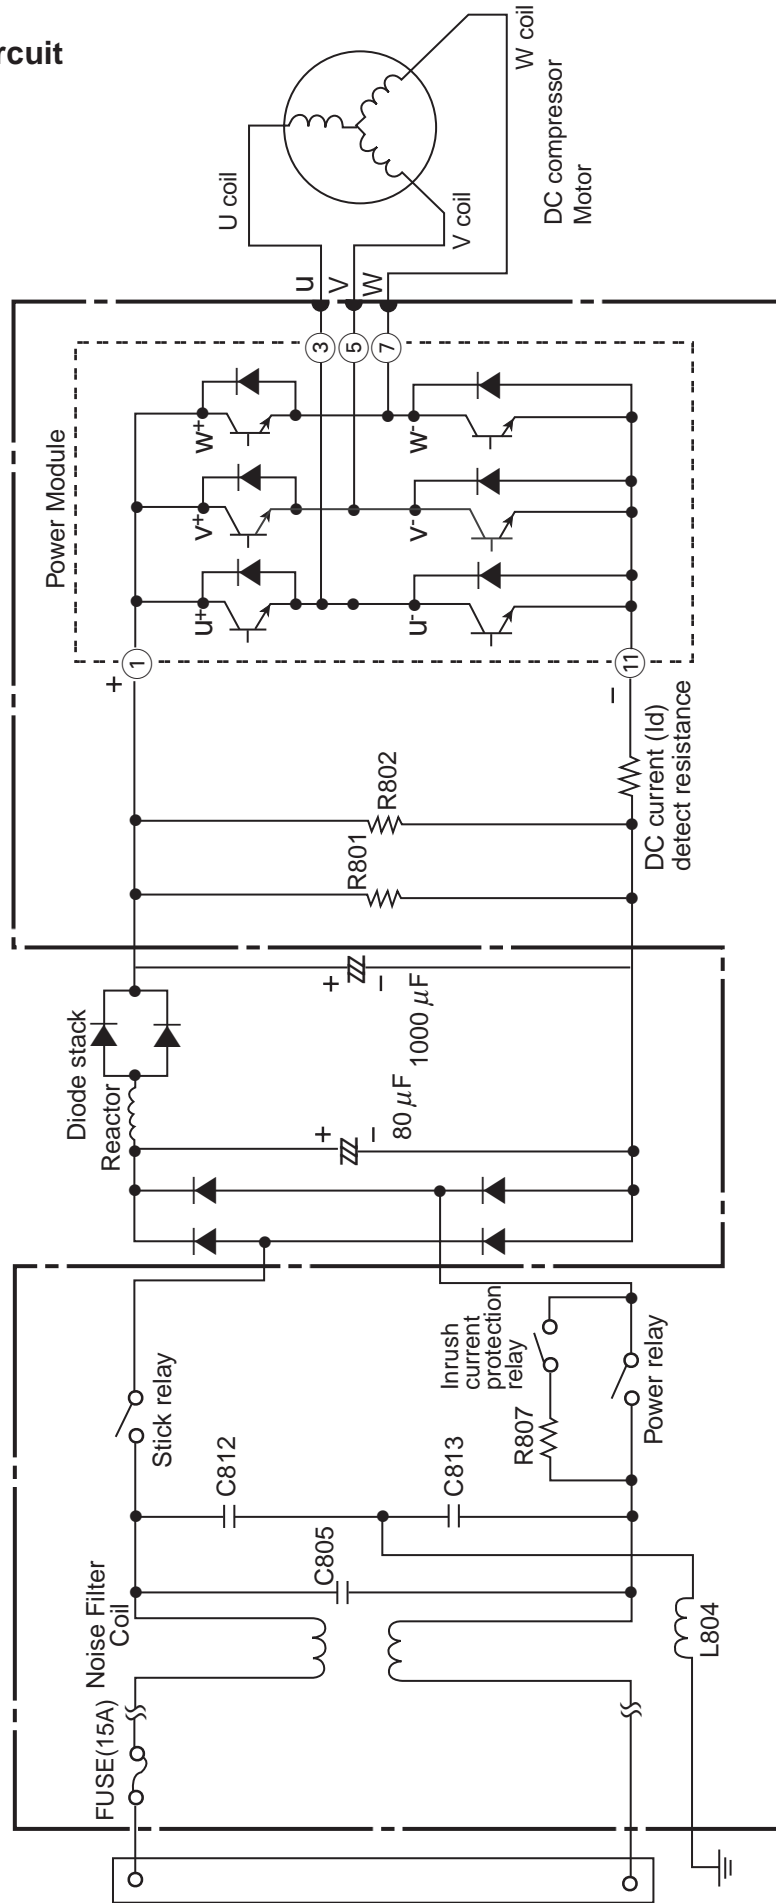
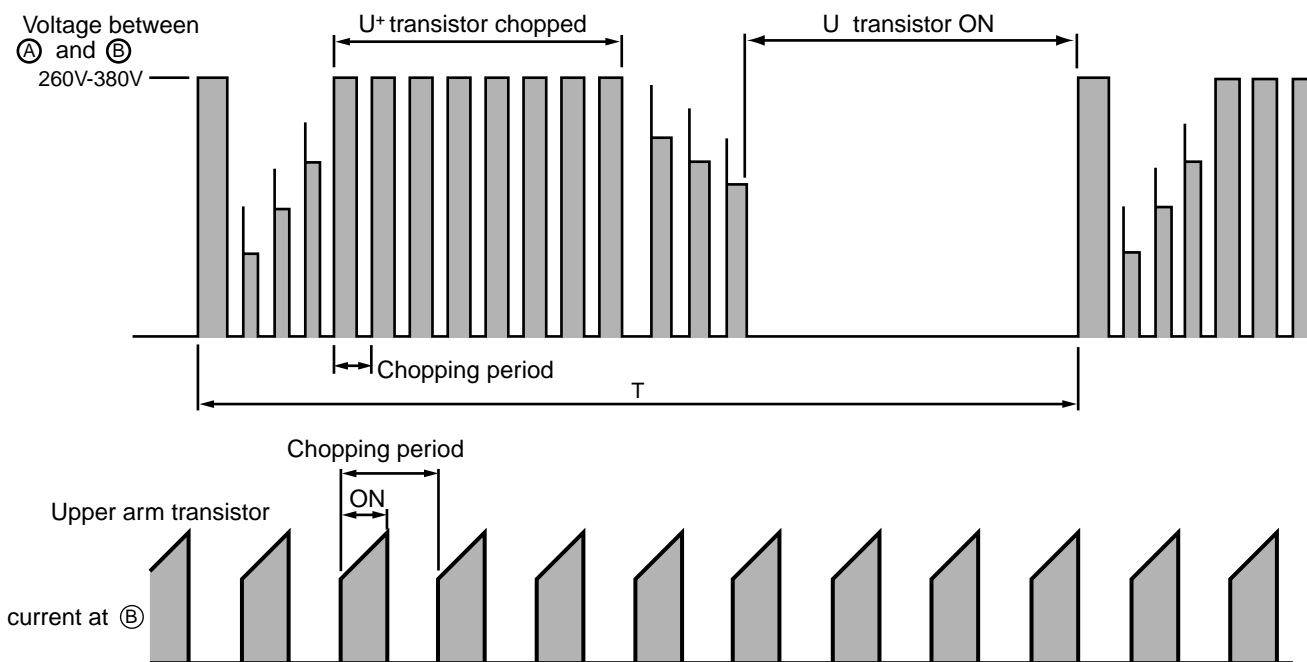

Fig. 3-1 Power module circuit (U⁺ is ON, V is ON)
Fig. 3-3 Voltage waveform at each point
- Fig. 3-1 shows the power module and its peripheral circuits. The three transistors on the positive ⊕ side, the three transistors on the negative ⊖ side, and the three transistors on the positive ⊕ side, the three transistors on the negative ⊖ side, and the three transistors on the negative ⊖ side, the lower arm.
- Fig. 3-3 shows voltage waveform at each point shown in Figs. 3-1 and 3-4.
- When power is supplied U⁺ → U⁻, because of that U⁺ is chopped, current flows as shown below; ②
(1) When U⁺ transistor is ON: U⁺ transistor → U coil → V coil → V⁻ transistor → DC current detection resistor → Point ② (Fig. 3-1)
- Since current flows at point (B) only when U⁺ transistor is ON, the current waveform at point (B) becomes intermittent waveform as shown in Fig. 3-3. Since current at point (B) is approximately proportional to the input current of the air conditioner, input current is controlled by using DC current (I_d) detection resistor.